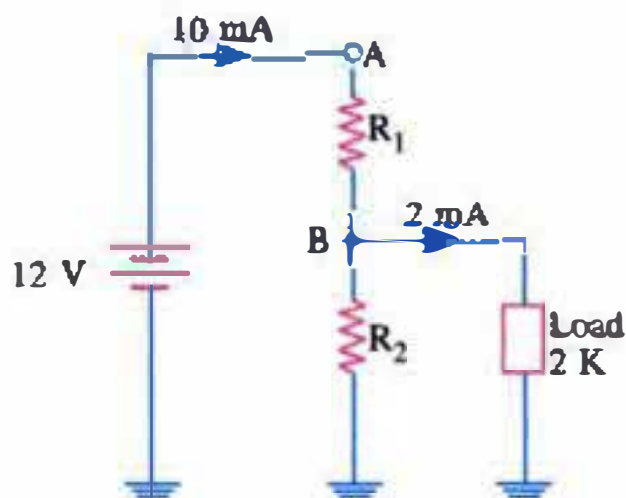

Fig. 2.39
5. In the series voltage-divider circuit of Fig. 2.39, rated load current is 2 mA and maximum current the battery can supply is 10 mA. Calculate the values of resistances R_1 and R_2 and their power ratings.